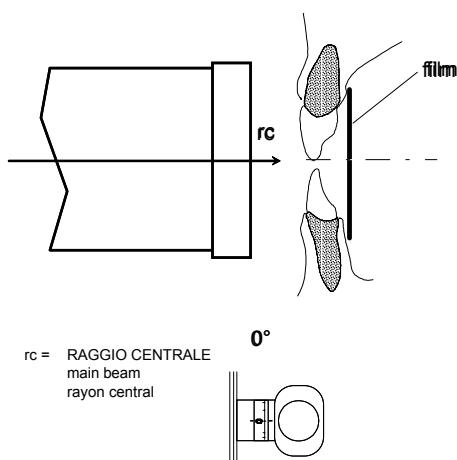

Figure 8
- a) Arrange the tubehead with an angle suitable for the required exposure and positioning (See Figure 5 ÷ Figure 8).